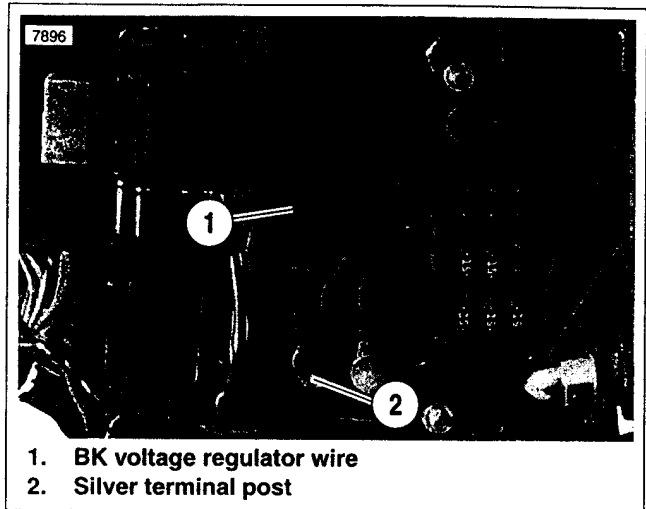

Figure 8-28. Main Circuit Breaker
4. See Figure 8-28. Gain access to the electrical panel by detaching cover and removing four nuts. Disconnect the voltage regulator lead from the main circuit breaker.